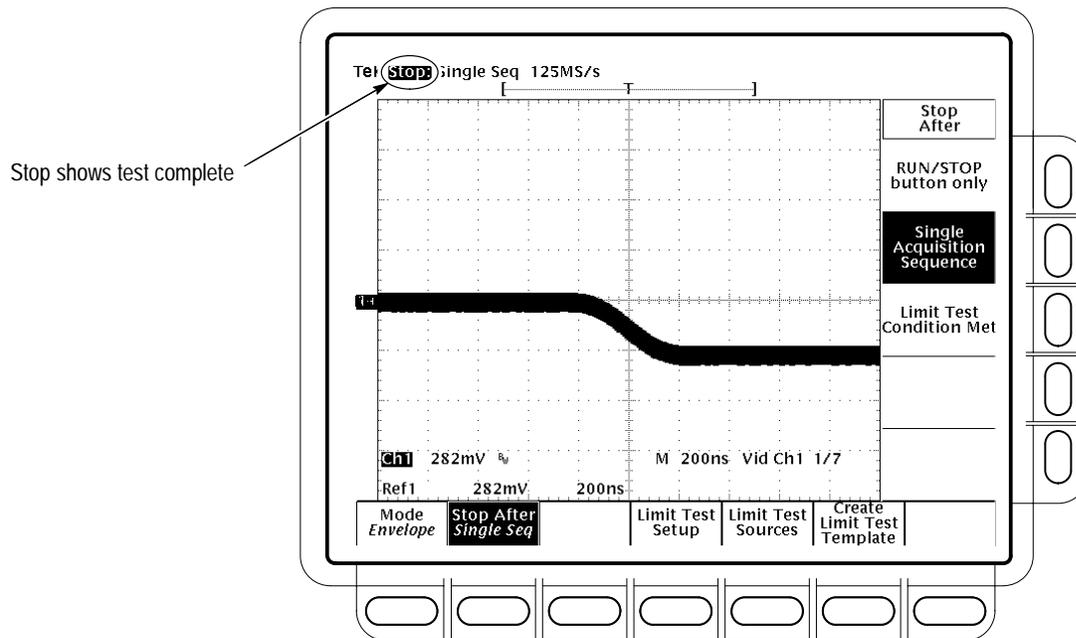

Figure 4–28: Jitter test when completed – TDS 684B shown
- v. Confirm that the oscilloscope successfully makes 100 acquisitions. If not successful, the oscilloscope bell will ring. When the word **Run** in the top left corner of the display changes to **STOP**, the test is complete. See Figure 4–28.